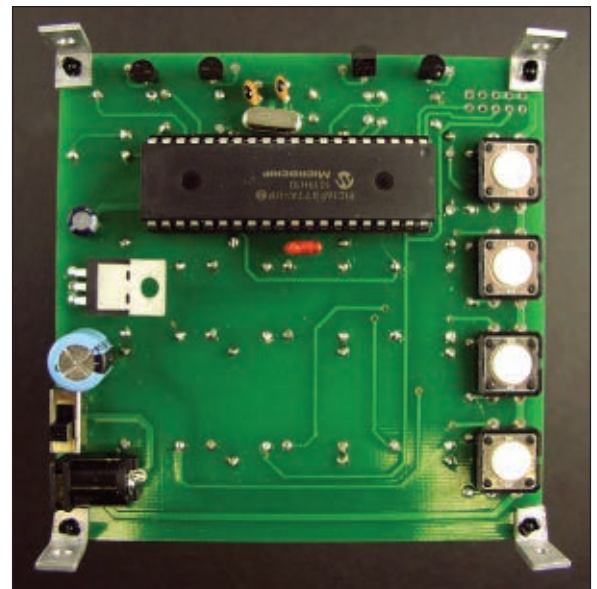

Figure 34. Bottom view PCB, populated.
14. Insert the programmed PIC16F877A into the 40-pin DIP socket with the correct polarity on the bottom side of the PCB. You can use a pin straightener for easier insertion into the IC socket (see **Figure 34**).